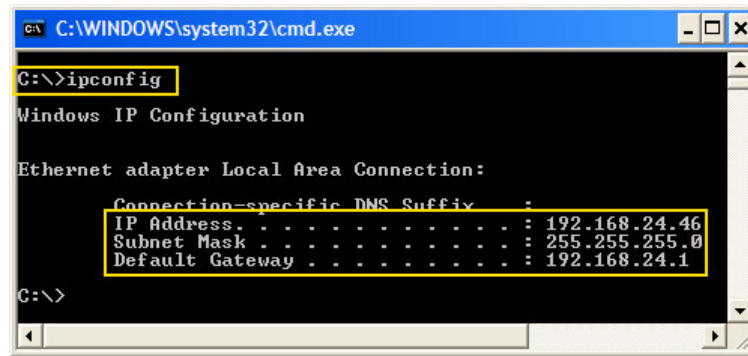

Figure 28. Windows™ IP Configuration Window
3. A black console similar to the one in Figure 28 will appear. Type in **ipconfig** then press enter. Your network settings should appear.